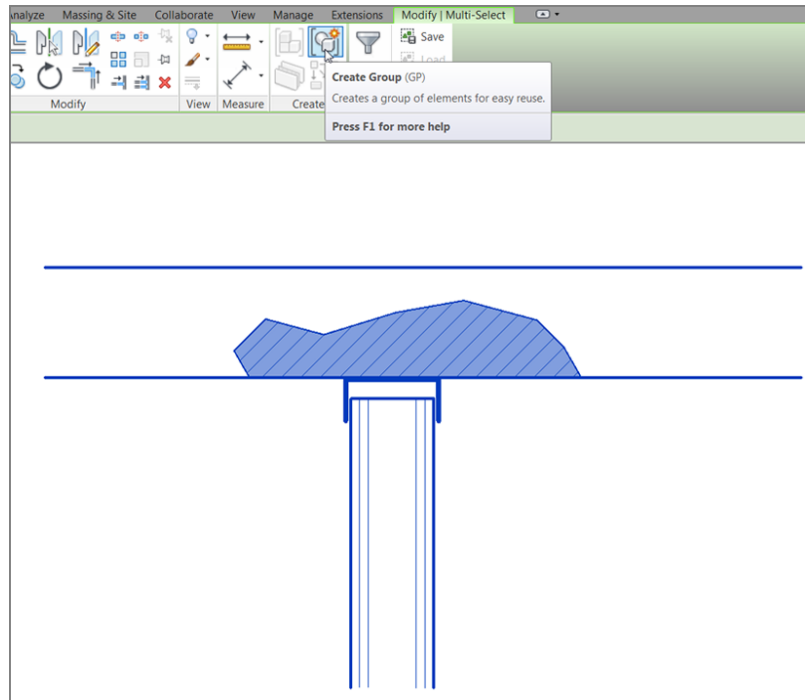

FIGURE 12.63: The Create Group button on the Create tab
2. On the Modify | Multi-Select tab in the Create panel, click the Create Group button, as shown in Figure 12.63.